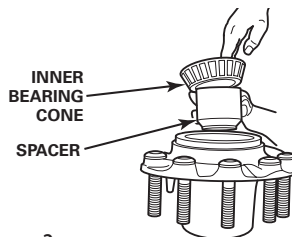

Figure 2
4. Remove the inner bearing cone and spacer from the hub assembly (see Figure 2).